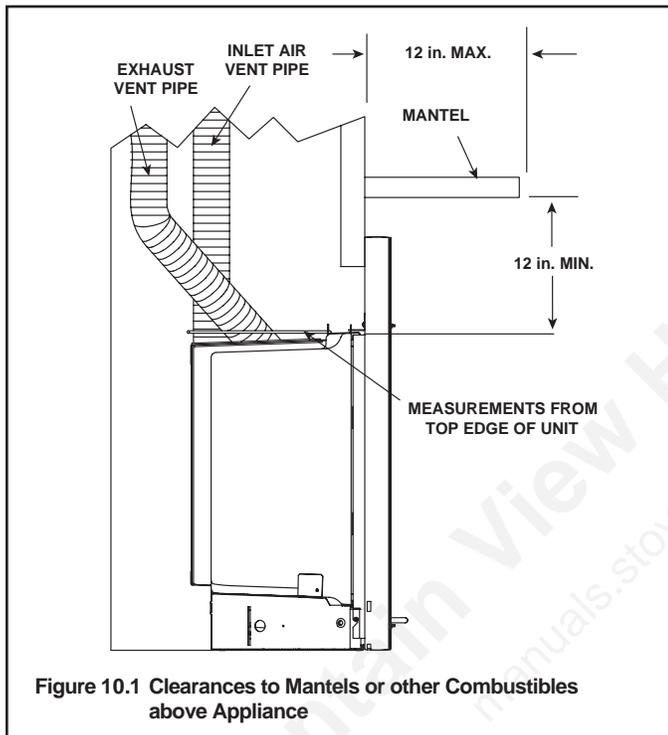
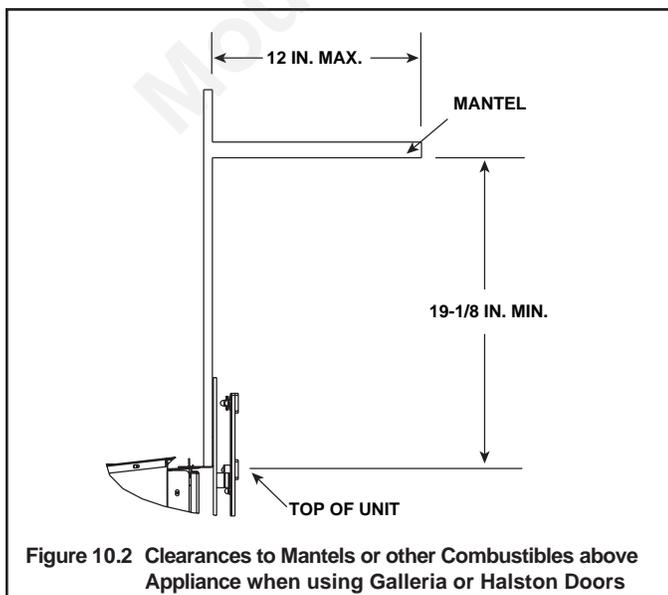

Figure 10.1 Clearances to Mantels or other Combustibles above Appliance
Figure 10.2 Clearances to Mantels or other Combustibles above Appliance when using Galleria or Halston Doors
Figure 10.1 shows the minimum vertical and corresponding maximum horizontal dimensions of appliance mantels or other combustible projections above the top front edge of the appliance, not the surround. See Figure 10.2 for required clearances when using Halston or Galleria Doors.
1. Find the coiled low voltage wires and ON/OFF switch attached to outer right side of the insert (see Figure 10.2).
3. Attach surround assembly by hooking the support bracket on the locating tabs on top of the gas insert fireplace (see Figure 10.2.) Once the surround assembly is on the locating tabs, ensure the bottom hooks are resting on the locating pins at the base. Reposition the fireplace if necessary. Refer to surround instructions provided with the decorative surround.